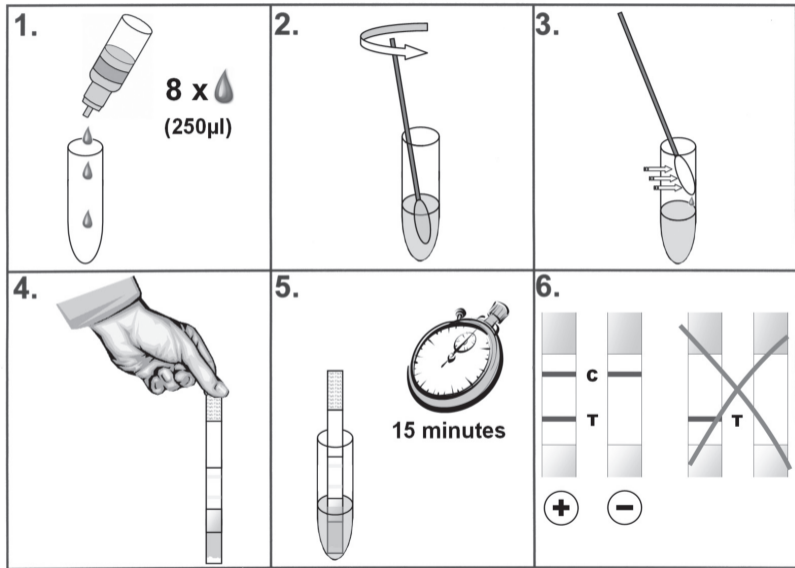

FIGURE 1 - Sample Extraction and Test Procedure - Method "A"
- Place 8 drops (approximately 0.25 mL) of Extraction Buffer in the test tube provided (Figure 1, Step 1).
- Place the swab containing the specimen in the tube and rotate the swab 5 – 10 times in the buffer (Fig. 1, Step 2).
- When removing the swab from the tube, press the swab against the side of the tube repeatedly until no more liquid comes from the swab (Fig 1, Step 3).
- Remove a test strip from the desiccant vial for each sample to be tested. Handle the test strip on the labelled portion of the strip. (Fig. 1, Step 4).
- Place the test strip directly into the test tube containing the sample. Place test strip so that the pink pad is submerged in the extracted sample. Incubate the test strip in the sample for 15 minutes. (Figure 1, Step 5).
- Place the test strip directly into the test tube containing the sample. Place test strip so that the pink pad is submerged in the extracted sample. Incubate the test strip in the sample for 15 minutes. (Fig. 1, Step 5).
- After 15 minutes, observe the presence or absence of pink/purple bands in the center of the test strip between the two absorption pads (Fig.1, Step 6).
- The test is **VALID** if the Control Line (pink/purple band) develops in the upper part of the test strip. The absence of the Control Line indicates that the test is invalid and must be repeated (Fig. 1, Step 6).
- **NEGATIVE** for Swine Influenza Virus: A single pink/purple band (Control Line) is present in the upper part of the test strip (C). A **NEGATIVE** result indicates that no detectable SIV is present in the sample.